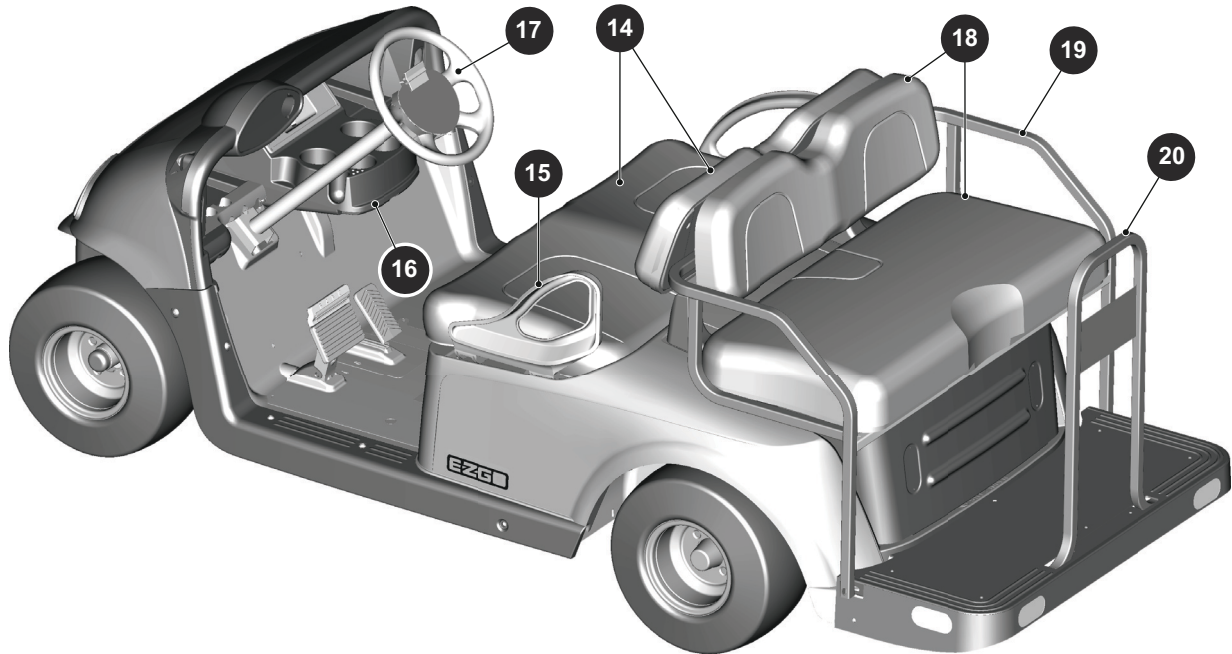

Figure 4
The front seat (14) is for two people, one person on each side of the seat (Figure 4).
The front hip restraints (15) help people stay in position while the vehicle is in motion (Figure 4).
The vehicle has a cup holder (16) for the benefit of both the driver and passenger (Figure 4).
The steering wheel (17) controls the direction of vehicle travel (Figure 4).
The vehicle has a feature that functions as a rear seat (18) or a cargo platform (Figure 4).
There is a hand rail (19), one on each side of the rear seat to help passengers stay in position when the vehicle is in motion. The passengers must hold the rear hand rail whenever the vehicle is in motion (Figure 4).
The rear handle (20) is located at the far end of the vehicle in the center of the rear footrest. The handle helps the passengers stay in position when the vehicle is in motion. The passengers must hold the handle when the vehicle is in motion (Figure 4).